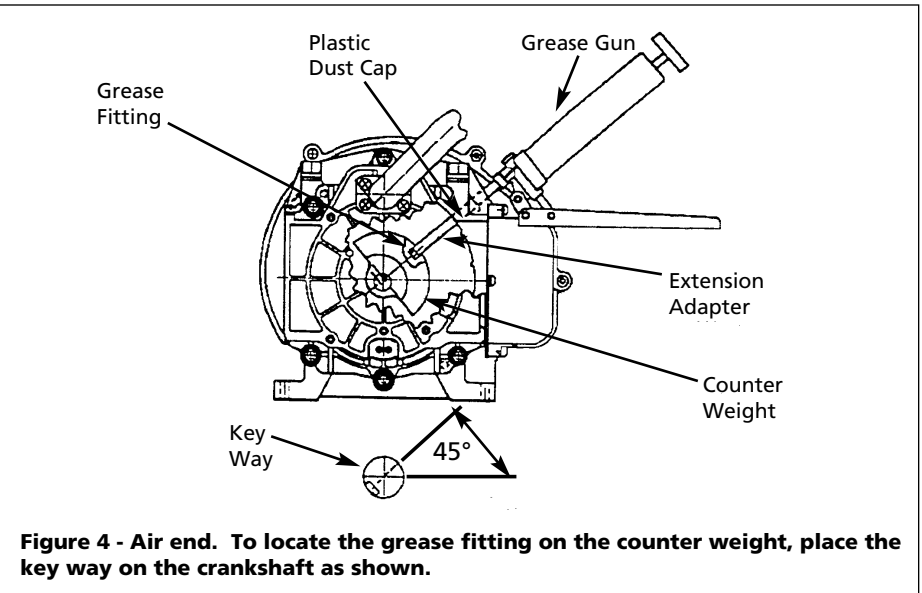

Figure 4 - Air end. To locate the grease fitting on the counter weight, place the key way on the crankshaft as shown.
1. Remove the plastic dust cap (Key #69) from the air end. See Figure 4.